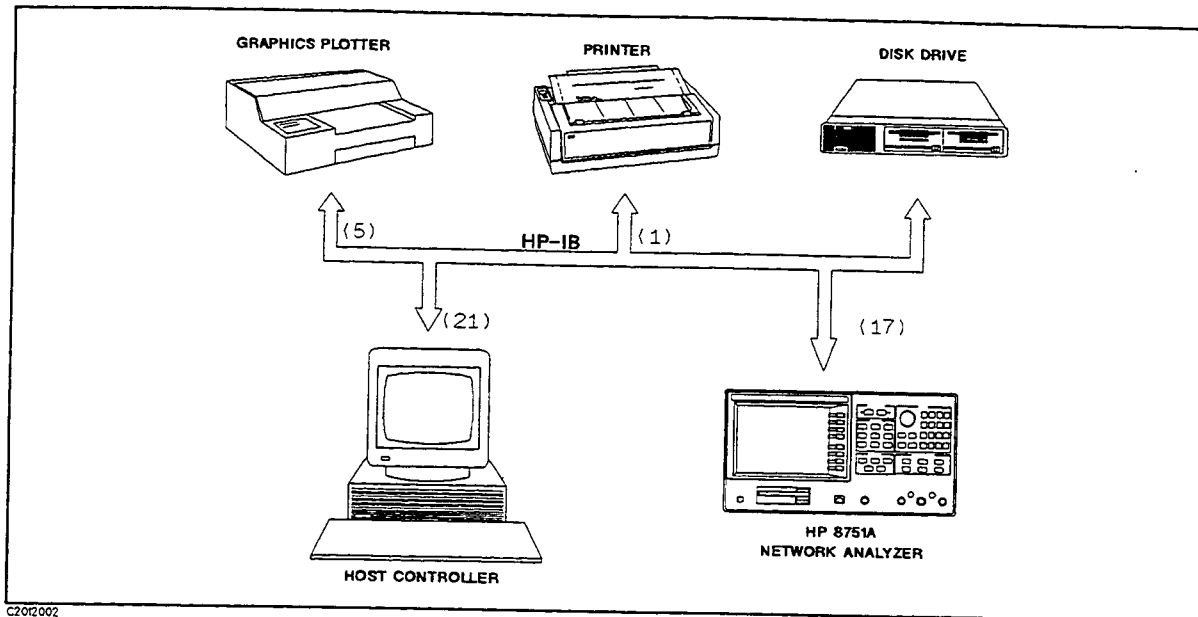

Figure 12-1. Analyzer Single Bus Concept
- Addressable** This is the traditional programming mode, in which the computer is involved in all peripheral access operations. When the external controller is connect the analyzer through HP-IB (as shown in Figure 12-1), this mode allows you to control the analyzer over HP-IB in the talker mode in order to send data, and in the listener mode to receive commands, and also allows the analyzer to take or pass control in order to plot and print.